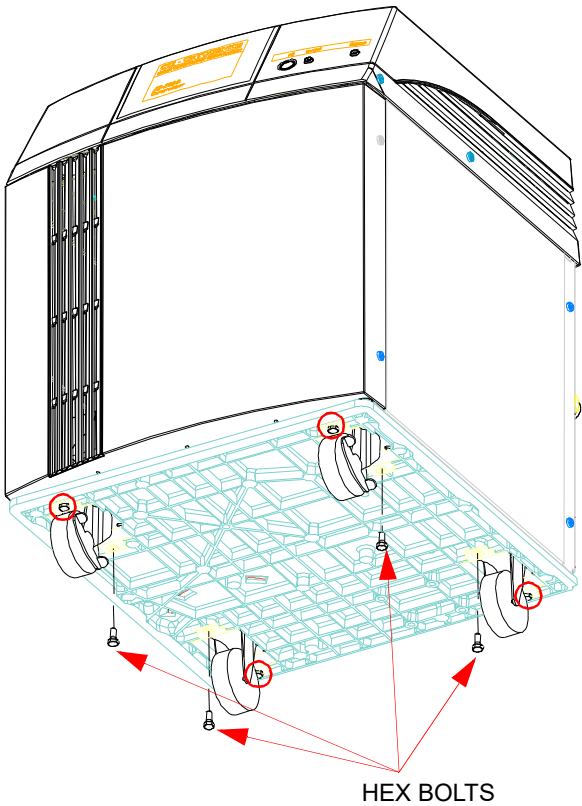

Figure 1: Removing Caster Hex Bolts
2. You only need to remove one of the two hex bolts that secure each caster to the bottom of the /S-1000 Compressor. Use a 7/16” wrench or socket to remove the four 1/4-20 x 0.75 hex bolts (Edwards Vacuum part number MS35307-305) and 1/4” lock washer (Edwards Vacuum Part Number 7001015P008) located closest to the inside center of the Compressor as indicated in Figure 1. **Do not remove the bolts** located closest to the outer edges of the compressor (circled in red in Figure 1).